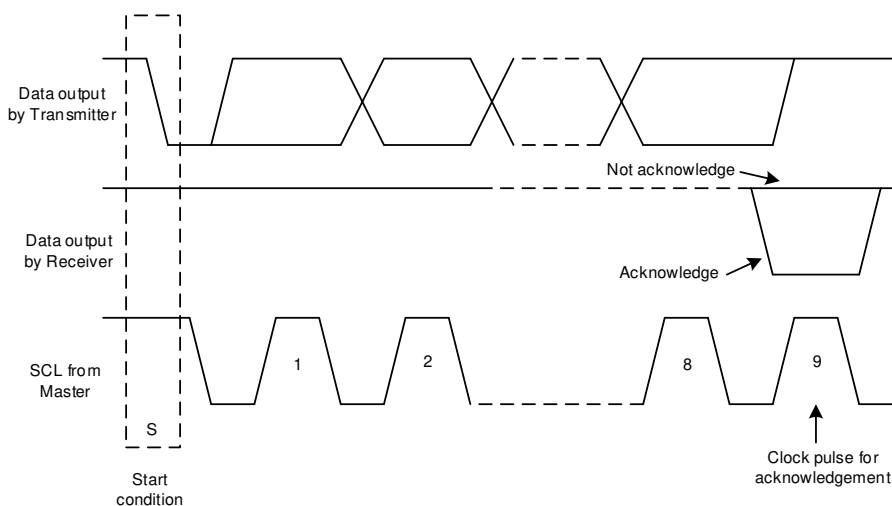
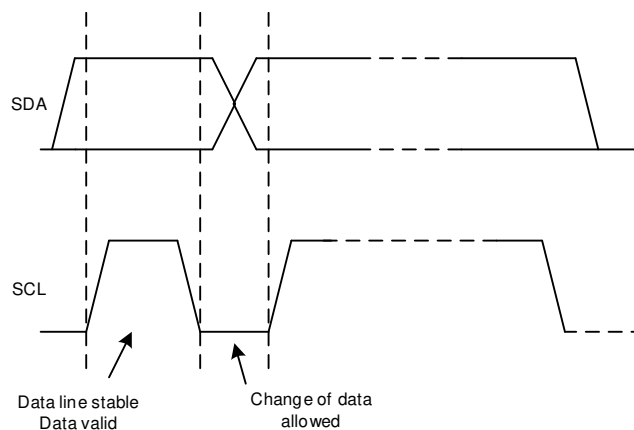

图 59. Acknowledge and Not Acknowledge on the I²C Bus
图 61. Bit Transfer on the I²C Bus
Other than specific timing signals, the I²C interface works with serial bytes. At the end of each byte, a ninth clock cycle generates and detects an acknowledge signal. Acknowledge is when the SDA line is pulled low during the high period of the ninth clock cycle. A not-acknowledge is when the SDA line is left high during the high period of the ninth clock cycle as shown in 图 59.
2. The master then generates the SCL pulses, and transmits the 7-bit address and the read/write direction bit (R/W) on the SDA line. During all transmissions, the master makes sure that data are valid. A valid data condition requires the SDA line to be stable during the entire high period of the clock pulse, as shown in 图 61. All devices recognize the address sent by the master and compare it to their internal fixed addresses. Only the slave device with a matching address generates an acknowledge by pulling the SDA line low during the entire high period of the ninth SCL cycle, as shown in 图 59 by pulling the SDA line low during the entire high period of the ninth SCL cycle. Upon detecting this acknowledge, the master knows the communication link with a slave has been established.